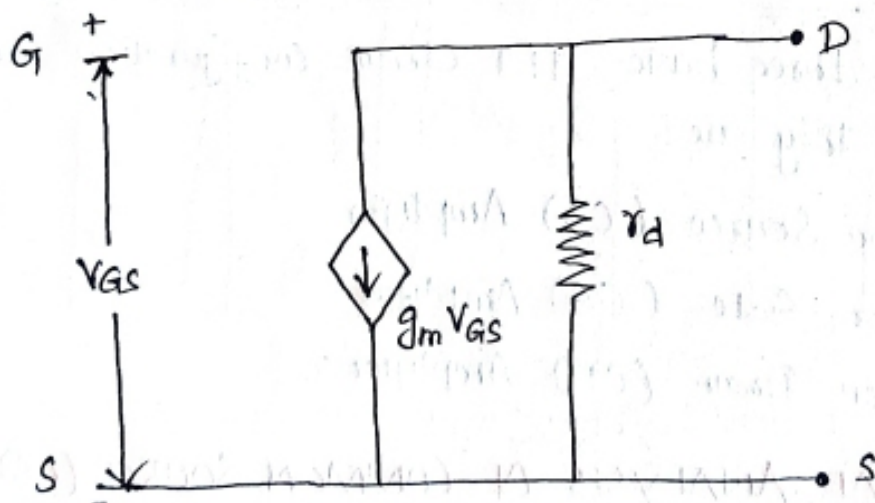

Fig. 1. Low-Frequency FET Model
Fig. 1 Shows the Small Signal Low-frequency model of a FET. Gate to Source Junction (G_S) is represented by an open circuit and Current (I) is not drawn by the Input terminal of FET.